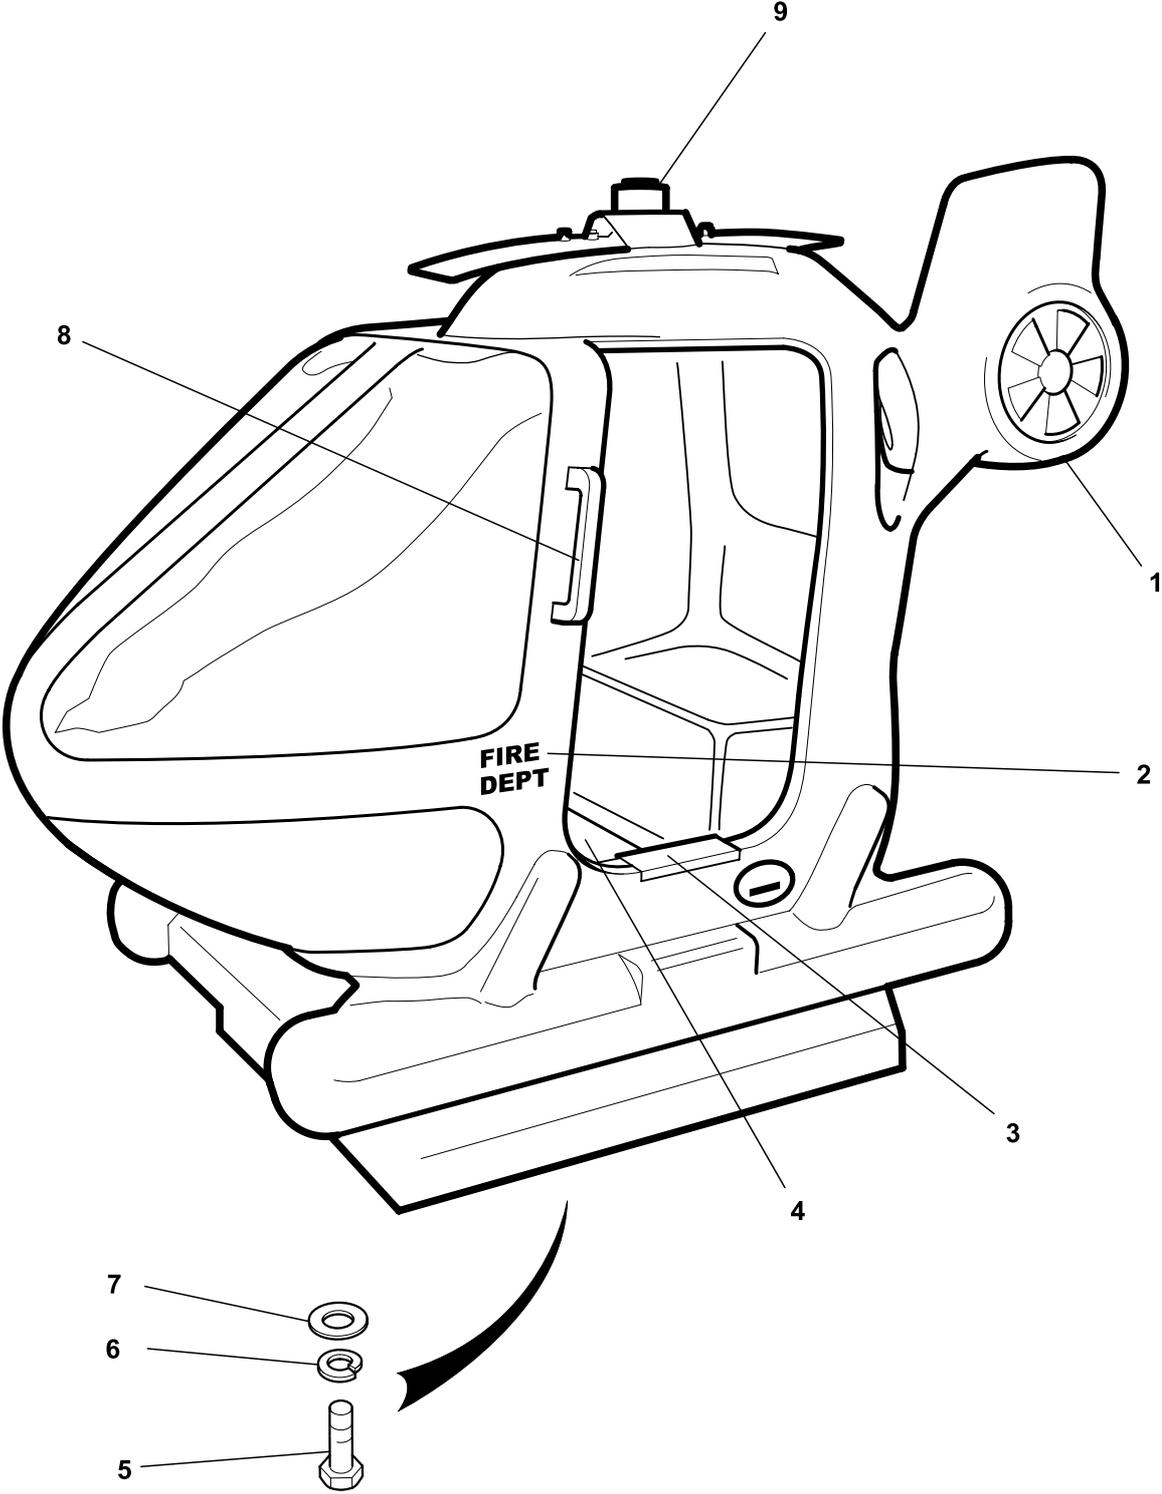

Fig 5 Body shell assembly
4.19.1 Remove the four bolts, (Fig 5, item 9) spring washers (Fig 5, item 10), and washers (Fig 5, item 11) situated under the body shell, which attach the body to the chassis.